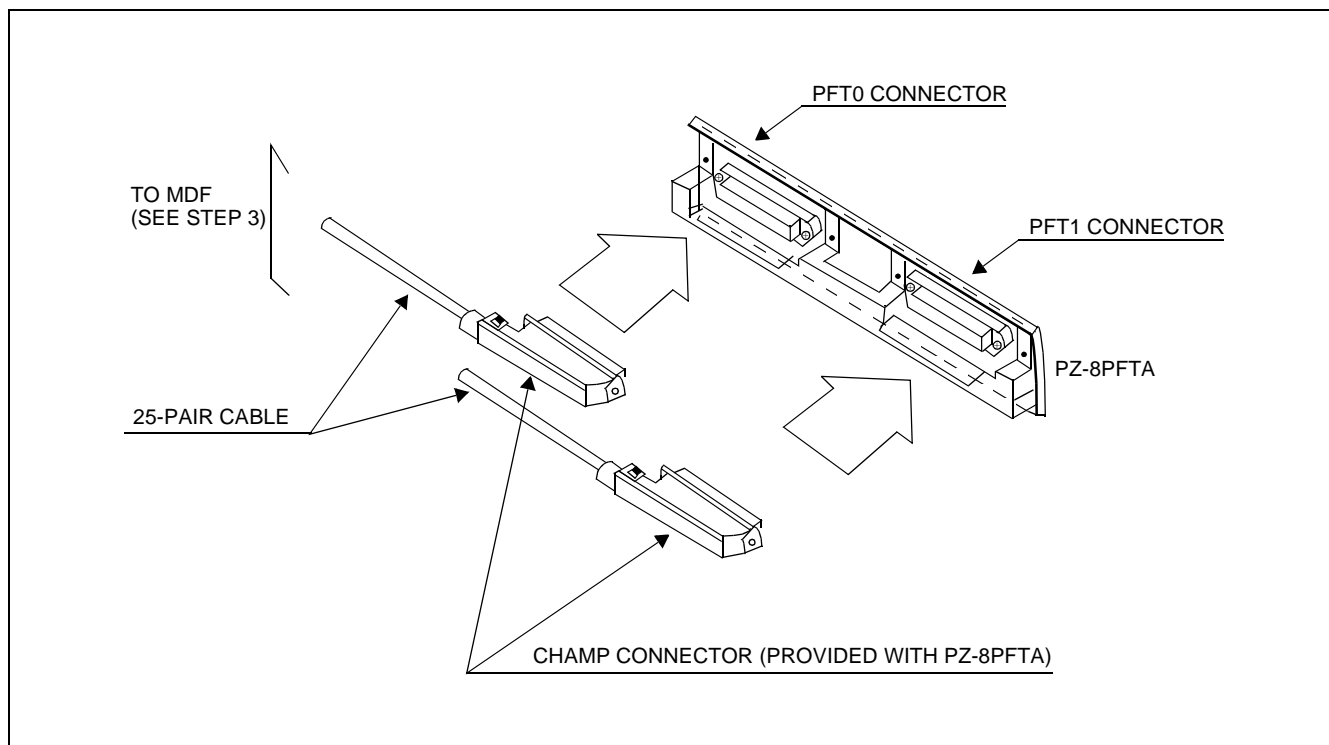

**Figure 007-33 Mounting PZ-8PFTA Card to PIM**
**STEP 1:** Mount the PFT bracket to the PIM as indicated in Figure 007-33. Then, insert the PZ-8PFTA card into the mounting bracket and secure it the screws provided.